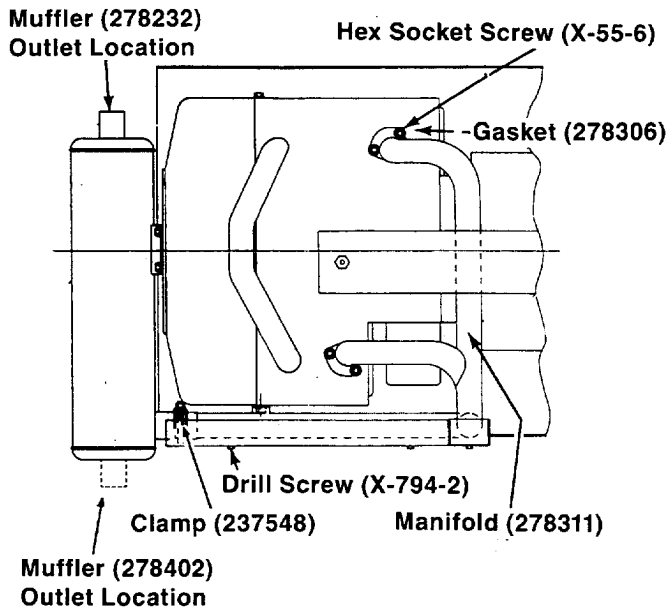

Figure 1. Exhaust Manifold Installation (Top View)
2. Position exhaust gaskets (278306) and new exhaust manifold (278311) over engine exhaust outlets as shown in Figure 1. Flared ends of manifold pipe should be tight against engine outlets. Secure exhaust manifold at exhaust outlets with four hex socket head screws (X-55-6). Remove engine enclosure bottom screw and replace with 1/4-20 screw (X-465-6) provided with kit. Attach manifold bracket to engine with replacement screw.